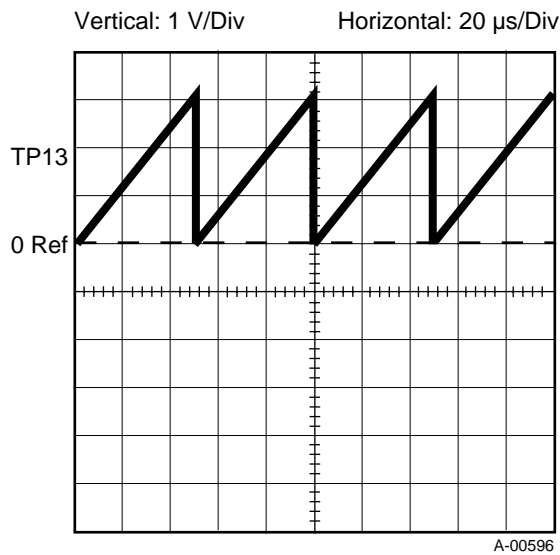

Figure 4-11 Basic Oscillation Waveform at TP13
- c. The sawtooth waveform should be approximately 3.2 volts at 50 μ s (refer to Figure 4-11).